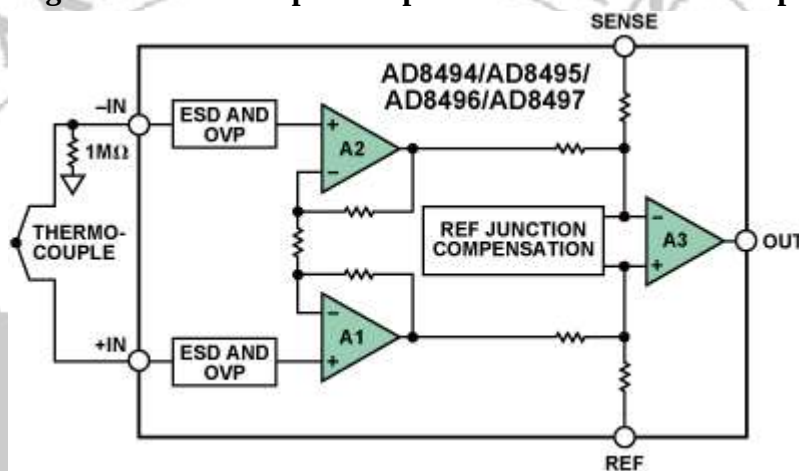

Fig. 15.3 Signal conditioning setup
1. Connect set up for temperature measurement with thermocouple and IC AD8495 as shown in fig.15.3